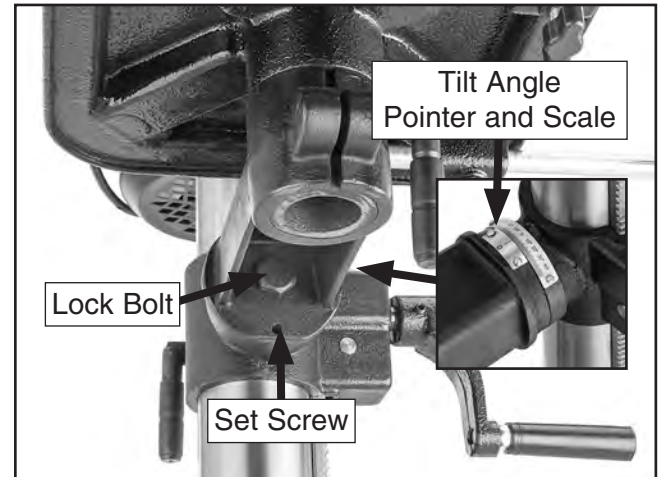

Figure 31. Table tilt controls.
1. Loosen the lock bolt and set screw shown in **Figure 31**.
2. Tilt table until pointer aligns with desired angle on scale (see **Figure 31**).